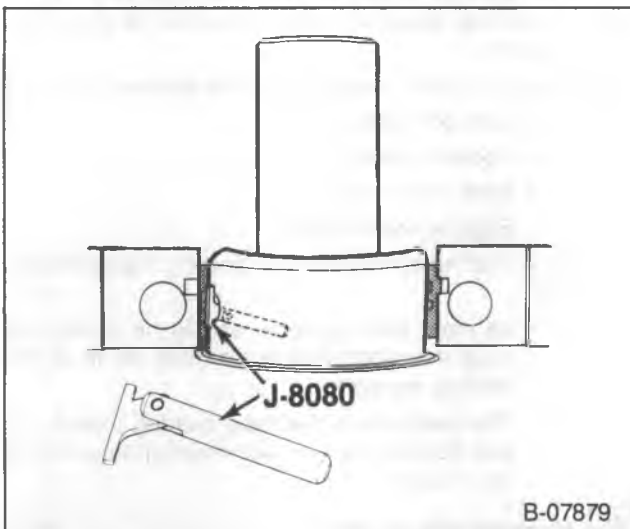

Figure 19—Removing the Upper Main Bearing Insert
1. Crankshaft timing gear (87).
2. Bolts (125).
4. Crankshaft (88). Lift the crankshaft straight up, taking care to avoid damage to the crankshaft journals and thrust flange surfaces.
5. Seal (71).
6. Main bearing inserts (figure 19).